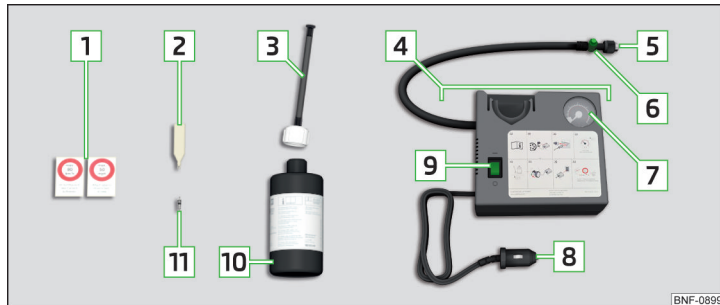

Fig. 334 Description of puncture repair kit
- › Insert the valve remover  » Fig. 334 on page 288 on the valve insert, so that the valve insert fits into the slot of the valve remover.
- › Screw the air compressor tyre inflation hose  » Fig. 334 on page 288 firmly onto the tyre valve.